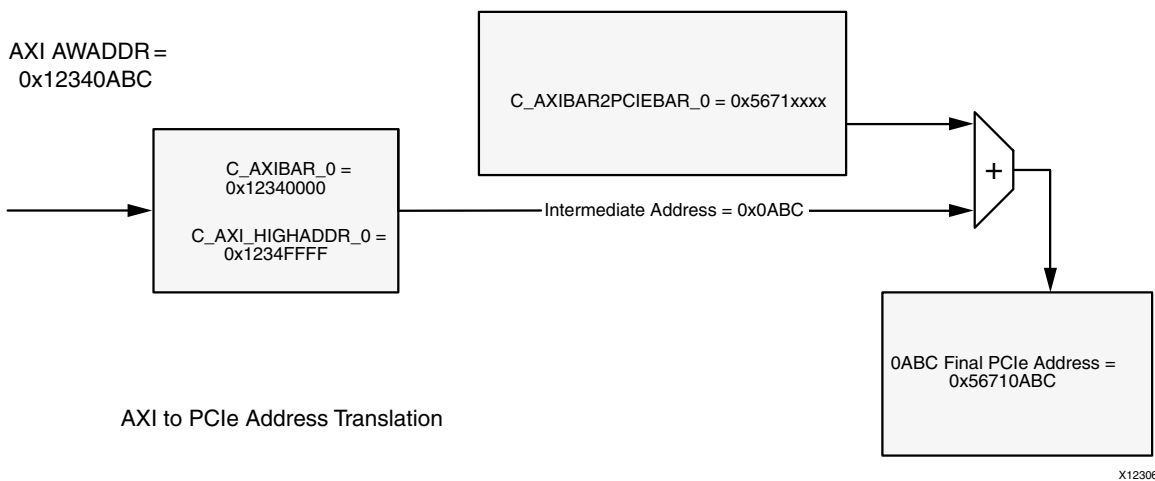

Figure 4: AXI to PCIe Address Translation
- Accessing the Bridge AXIBAR_0 with address 0x12340ABC on the AXI bus yields 0x56710ABC on the bus for PCIe. See Figure 4.